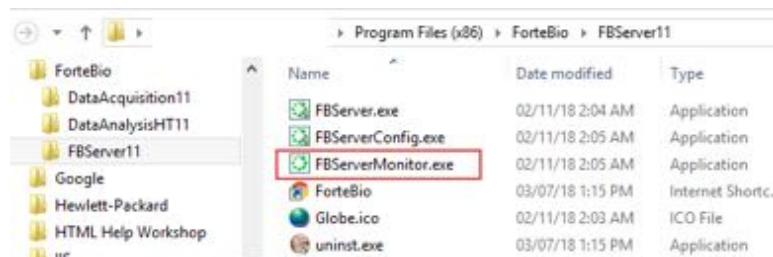

Figure 4-45: Accessing the ForteBio FB Server on the Network
- **ForteBio FB Server module on network location**—Double-click on the **FBServerMonitor.exe** file (Figure 4-45) in the FBServer folder in the installed location: